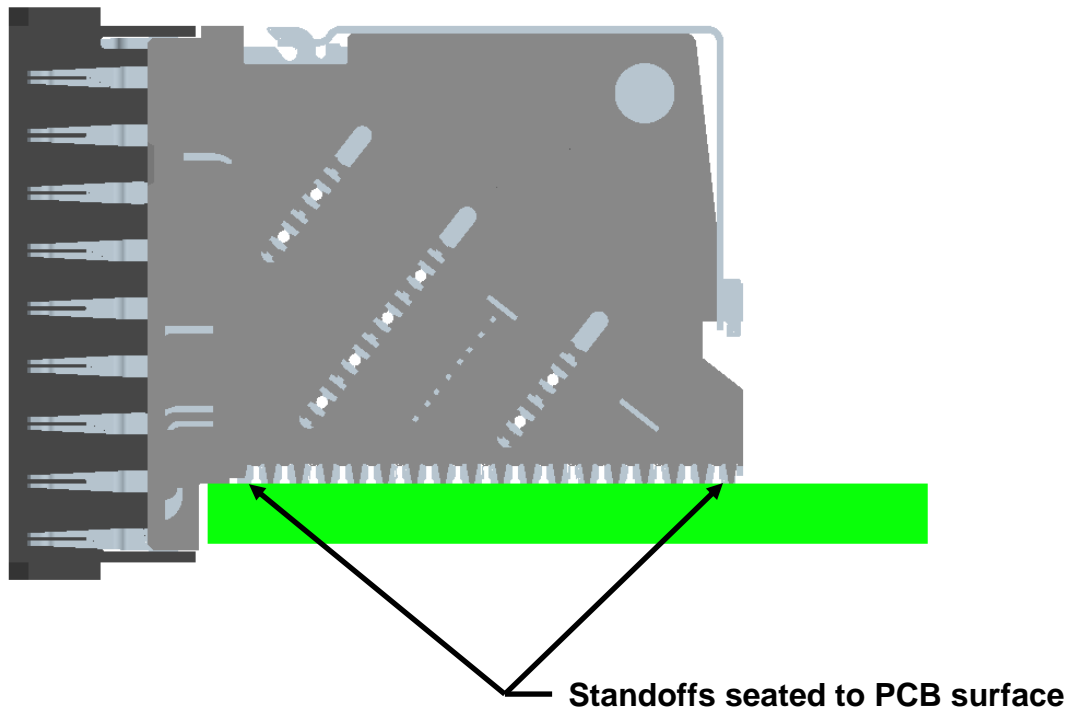

Figure 23: Proper seating depth for right angle connectors (receptacle shown)
- For right angle connectors, visually assure that the metal standoffs on the bottom of each assembly are seated against the top surface of the PCB. A gap beneath the standoffs indicates that the connector is not seated fully or is not seated parallel to the board (See figure 23). This can cause misalignment when mating with the corresponding connector.